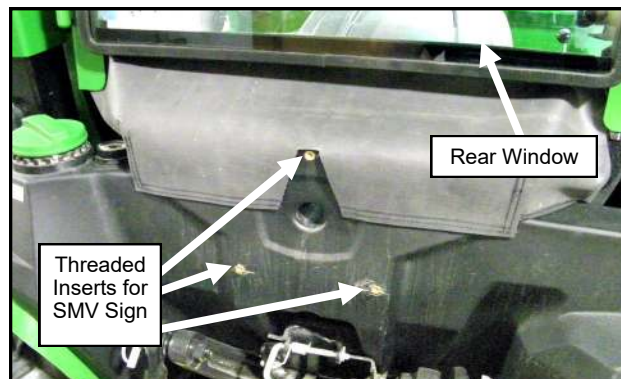

Fig. 20.3 (Rear Filler Behind Fuel Tank)
- 20.3** Remove the SMV sign, held by three screws to the rear of the plastic fuel tank at the rear of the tractor. See Figure 20.3. Place the filler against the outside of the fuel tank. Attach the Velcro to itself at the sides of the center of the fuel tank to form corners.